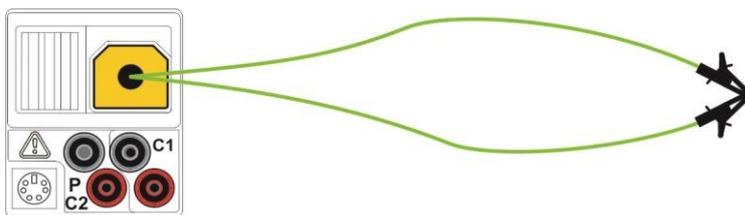

Figure 5.10: Shorted test leads
- ❑ **Connect** Continuity PV test lead to the instrument and short the test leads together (see Figure 5.10).